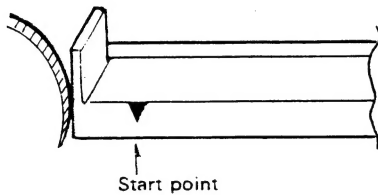

Fig. 10
7. Mount the TV Dial pointer at the start point on the TV bracket as shown in Fig. 10.